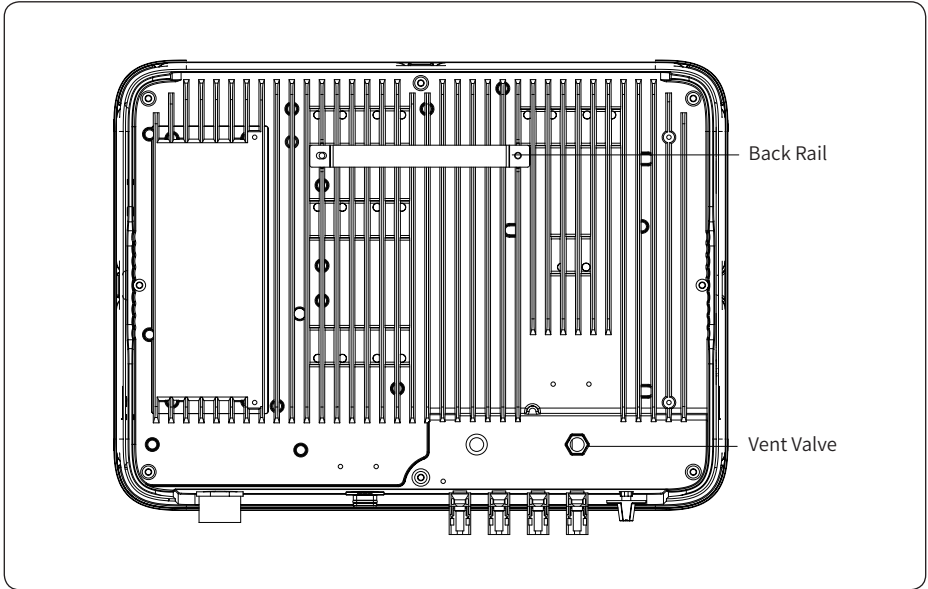

Figure 3-5 Inverter back view
3.2.4 Inverter back view, as shown in Figure 3-5: